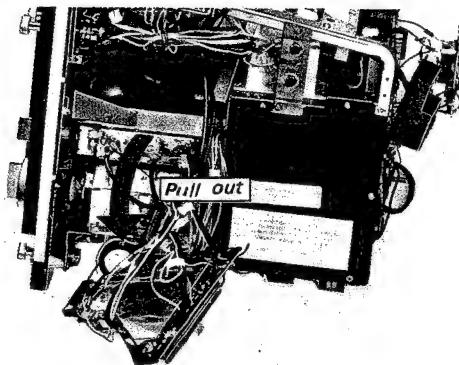

Fig. 2-16.
7. Pull out the SW circuit board as shown in Fig. 2-16.